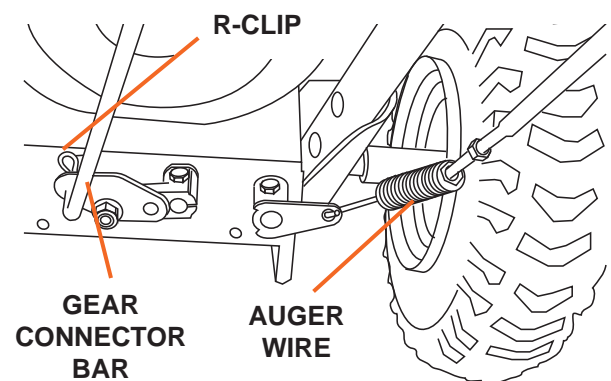

Figure 3
3. Attach the auger wire on the right side of the snow blower (see Figure 3). Remove the R-clip that connects the auger wire to the control lever on the handlebars, then slip the wire off. Attach the other end of the auger wire with the spring mechanism to the connection and reattach the auger wire to the control lever reinserting the R-clip. After connecting the wire adjust the tension. The wire should be taught when connected. (See Control Wire Adjustment, page 23).
4. Attach the speed shift rod and secure with a R-clip that has been included (see Figure 3).